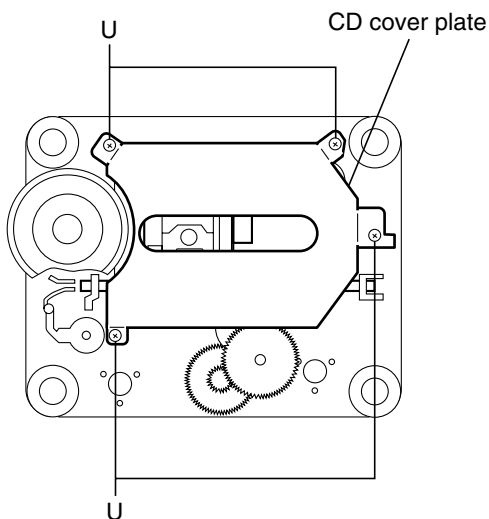

Fig.28
■ Removing the CD pickup unit (See Fig.28 and 29)